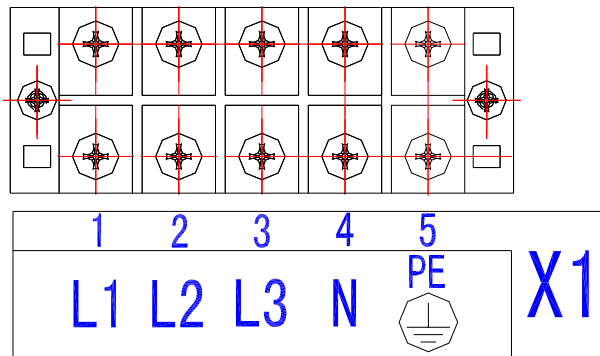

Figure 4-19 Power interface terminal X1
2. Function of generator power interface terminal is indicated in figure 4-19.